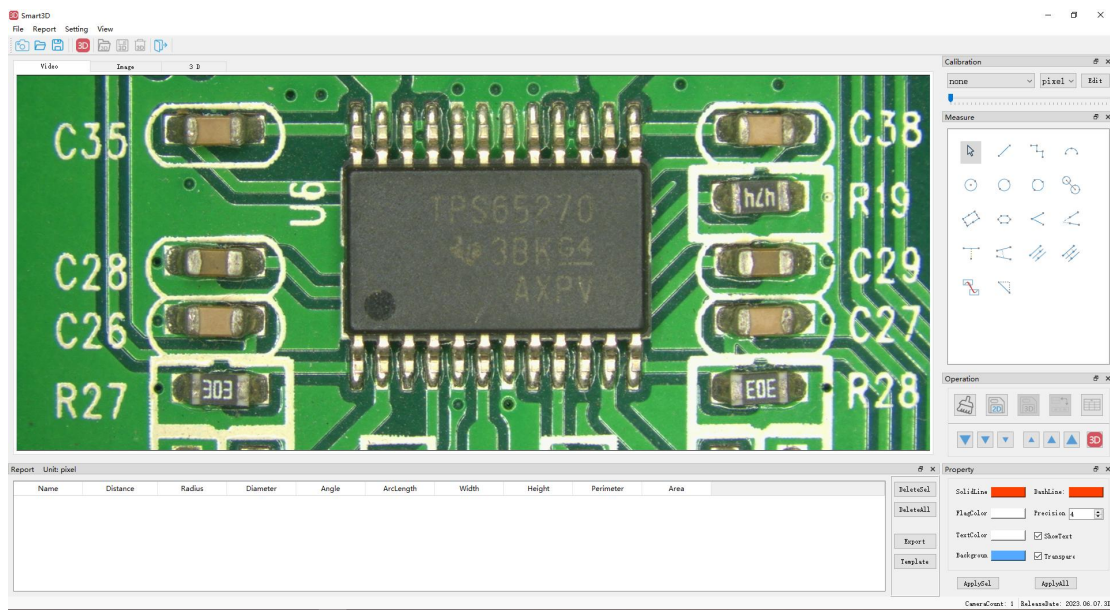

Figure 1.41 Toolba
② Monitor selection: the size of the basic monitor to choose the size of the monitor, the default 21 inch
③ Calibration name: the fundamental magnification and objective lens to the calibration magnification to name
④ Calibration size: according to the actual size of the calibration plate for calibration
⑤ Correction value: If there is a difference between the product and the actual calibration, you can add a correction
① **Toolbar:** display and hide the tools under the submenu, see Fig. 1.41 for details